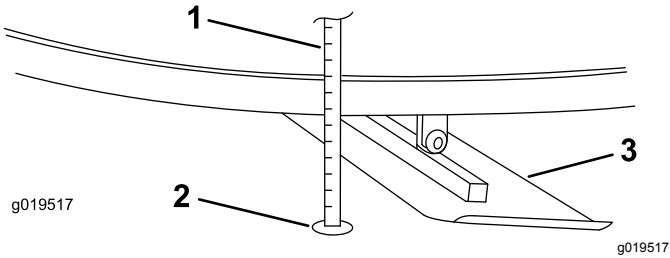

Figure 31
- 4. Place a mark on the blade and on the spot on the floor from where the measurement was taken (Figure 31).